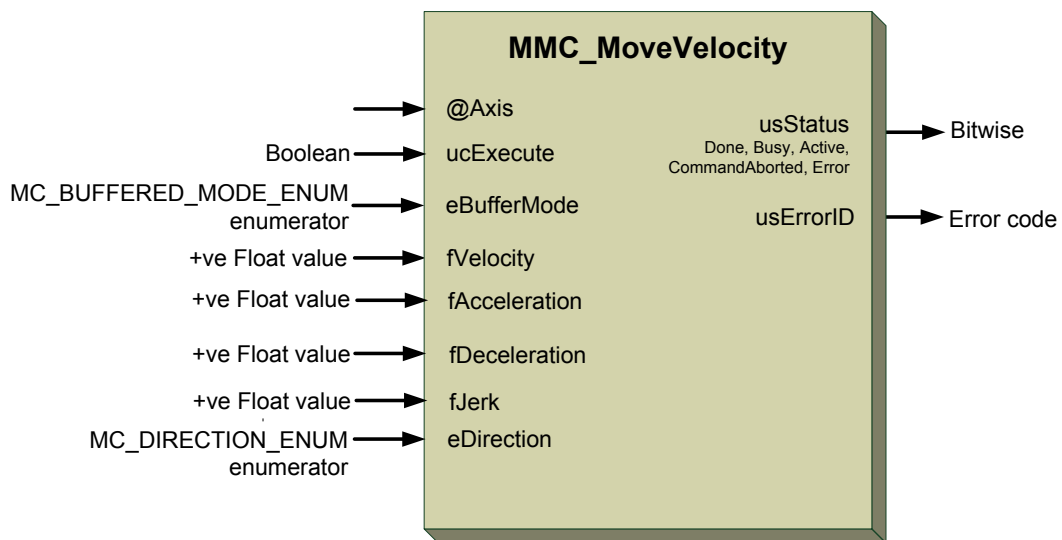

Figure 5-38: MMC\_MoveVelocity function block
**Figure 5-38** describes the function block for MMC\_MoveVelocity as applied within the IEC 61131 programming.
**Figure 5-38** describes the function block for MMC\_MoveContinuous as applied within the IEC 61131 programming.